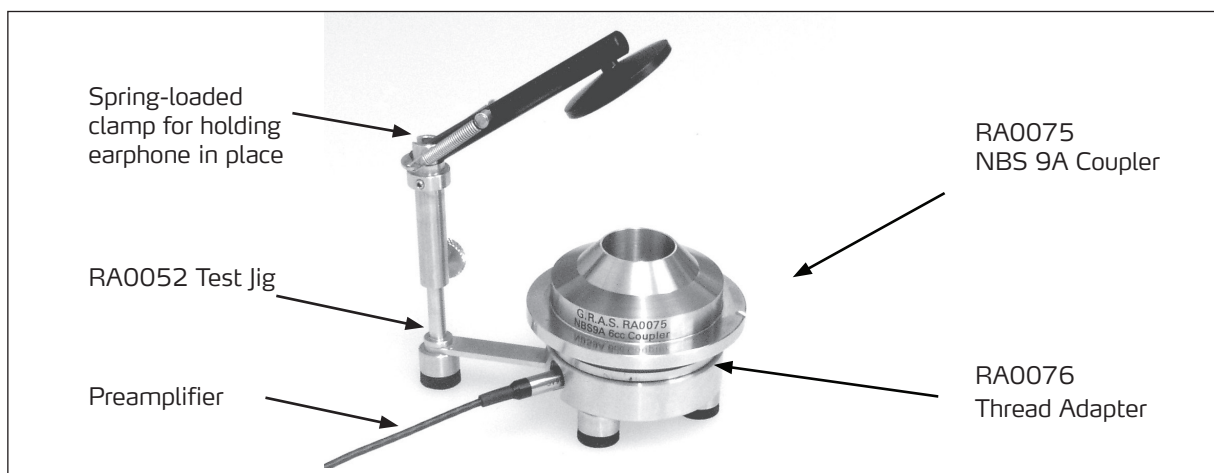
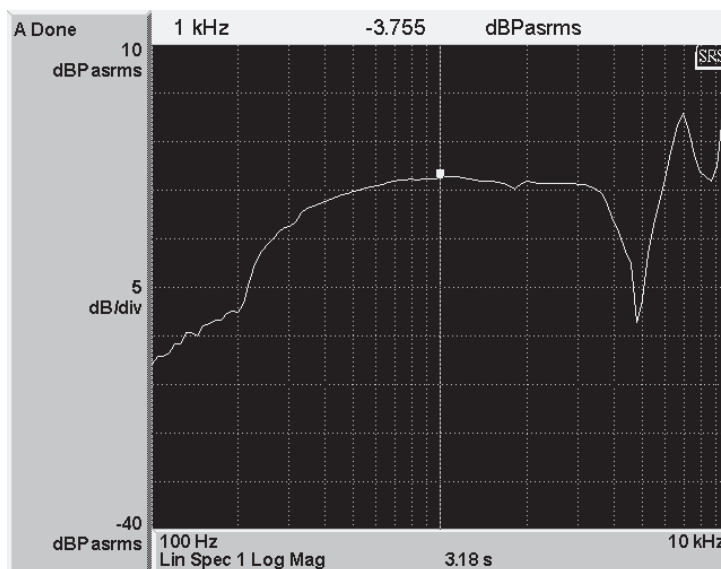

Fig. 1. Assembled 43AF
Fig. 5. Example of test results using a swept tone
When assembled as shown in Fig. 1, it is ready for testing earphones and headphones (see example in Fig. 2). An exploded view of its user-serviceable components is shown in Fig. 5.
With the Artificial Ear assembled as shown in Fig. 1 and everything switched on, proceed as follows:
- 1) Snap the spring-loaded clamp (see Fig. 1) to its upright position, or remove it.
- 2) If necessary, use the spring-loaded clamp to hold the earphone in place, see Fig. 1.
- The analyser will follow the response of the Artificial Ear to the earphone throughout the sweep and record and display the results accordingly (see example in Fig. 5).